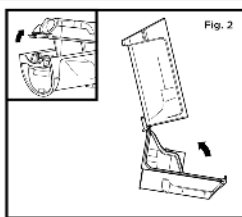

Fig. 2
- Press the Dust Cup Empty button to open the dust cup lid. (Fig. 2).